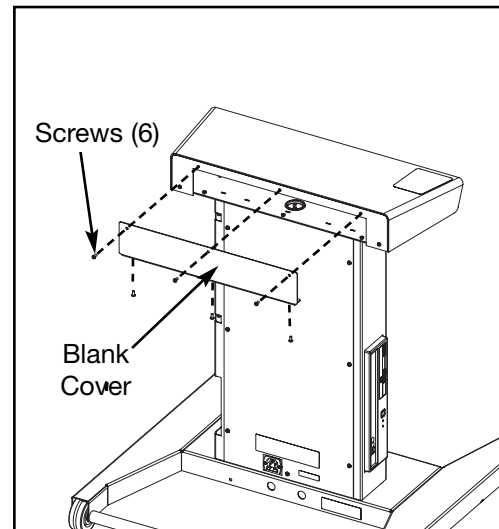

Figure 2
- A. Using the Phillips head screwdriver (#28) remove the six screws securing the blank cover to the cabinet. Set screws aside and discard the blank cover. See Figure 2.